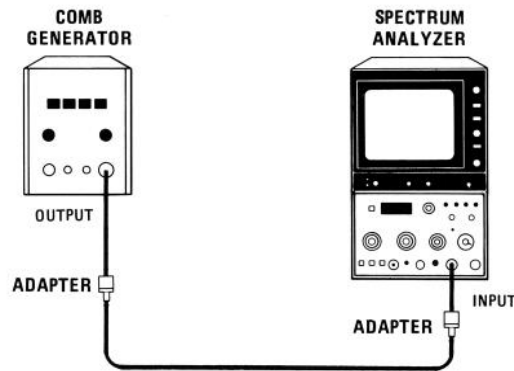

FIGURE 4-5. RESIDUAL FM TEST SETUP
2. Connect OUTPUT of comb generator to spectrum analyzer INPUT connector as shown in Figure 4-5.